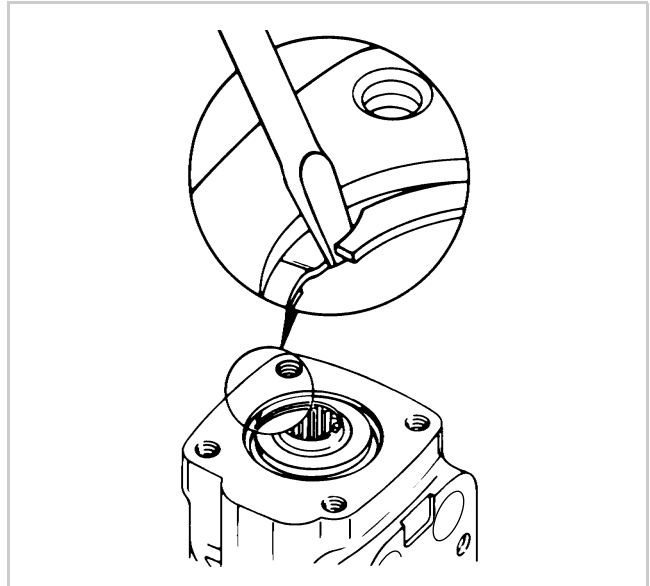

Fig. 33 (22647)
10. Remove the housing from the vise. Place the housing on a clean soft cloth to protect surface finish. Remove the retaining ring from the housing, as shown in Figure 33.